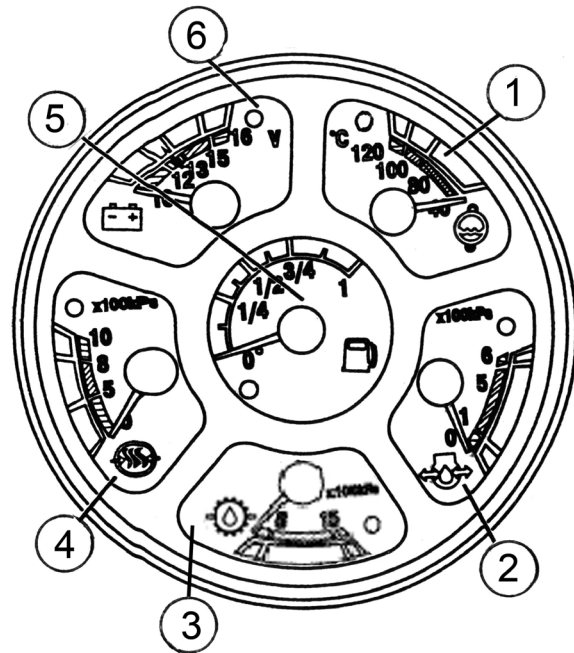

Рис. 9 Instrument board
2. The temperature indicator (1), Fig. 9, operates jointly with the thermistor-type temperature sensor BK1 (ДУТЖ-02М, resistance range: 243...22.5 Ω).